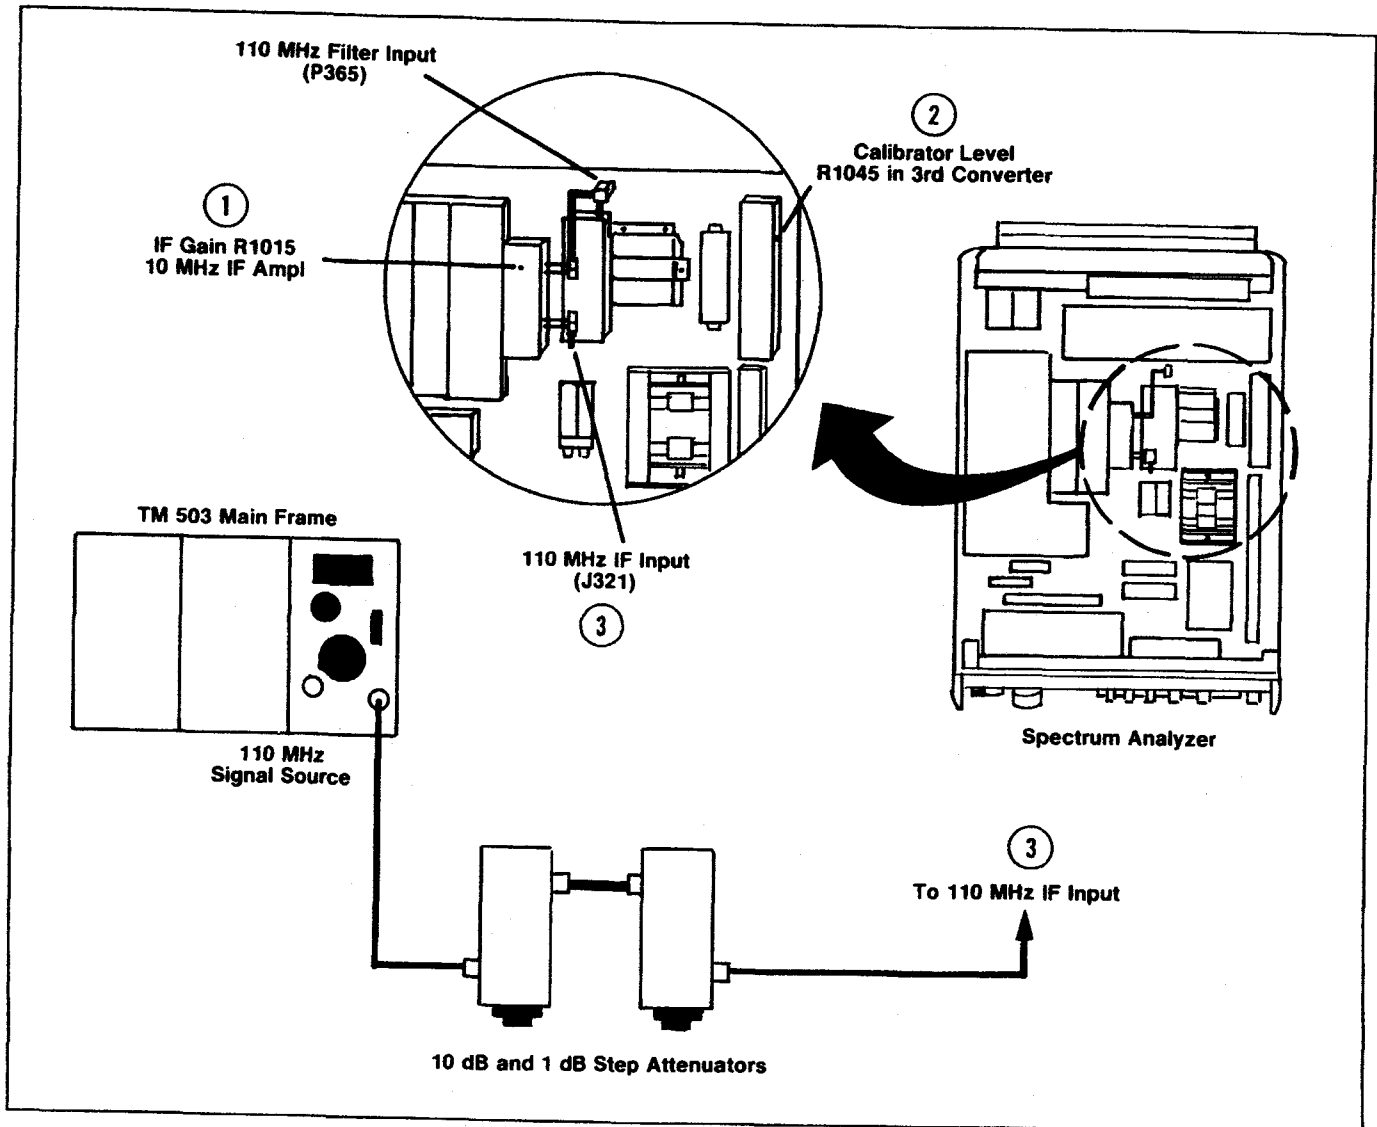

Figure 5-20. IF gain test setup, and adjustment and connector locations.
- f. Adjust Cal Level R1041, in the 3rd converter (#2 in Figure 5-20) for no displacement between the CAL OUT signal and the reference (VIEW B and SAVE A displays).
- a. Test equipment setup is shown in Figure 5-20. Set the RESOLUTION BANDWIDTH to 1 MHz, REF LEVEL to -20 dBm, and VERT DISPLAY to 2 dB/DIV. Apply a -25 dBm, 110 MHz signal, through step attenuators, to the input (J365) of the 110 MHz filter.
- d. Set the step attenuators for 21 dB attenuation and apply the 110 MHz signal to the input (J321) of the 110 MHz IF amplifier (Figure 5-20).